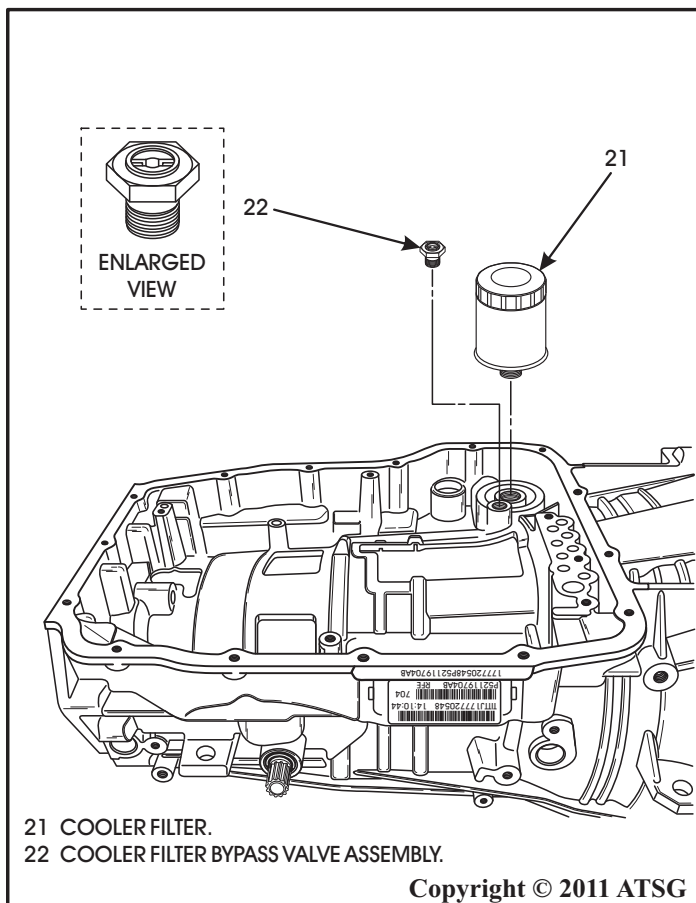

Figure 158
37. Install the cooler filter by-pass valve into the transmission case, as shown in Figure 158, and torque to 11.3 N·m (100 in.lb.).
38. Install the cooler filter in transmission case and use filter wrench to tighten (See Figure 158). The official torque spec is 9.5 N·m (84 in.lb.).